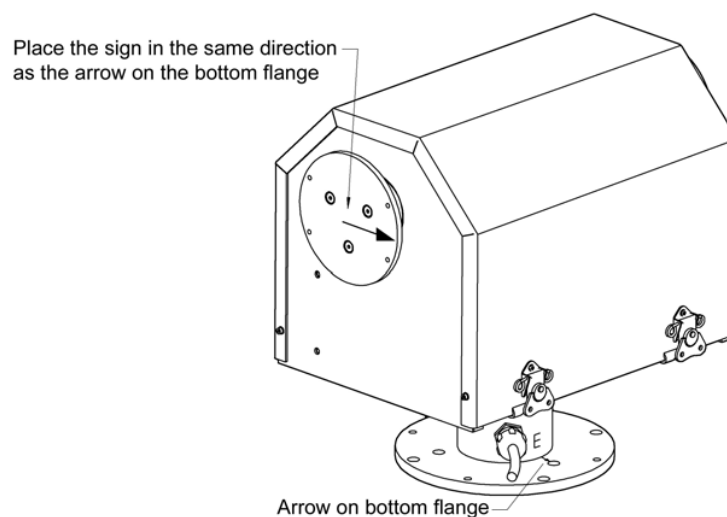

Figure 4.39: Simulating Instrument Direction.
- Verify that in the Home Position one of the sensor blockers is positioned in the Zenith optical reference sensor. A second sensor blocker is pointing in another direction, see figure 4.39.
- in the same direction as the arrow on the 2AP bottom flange for an upward Zenith range, see figure 4.39.
- in the opposite direction as the arrow on the 2AP bottom flange for a downward Zenith range, see figure 4.39 and the note.